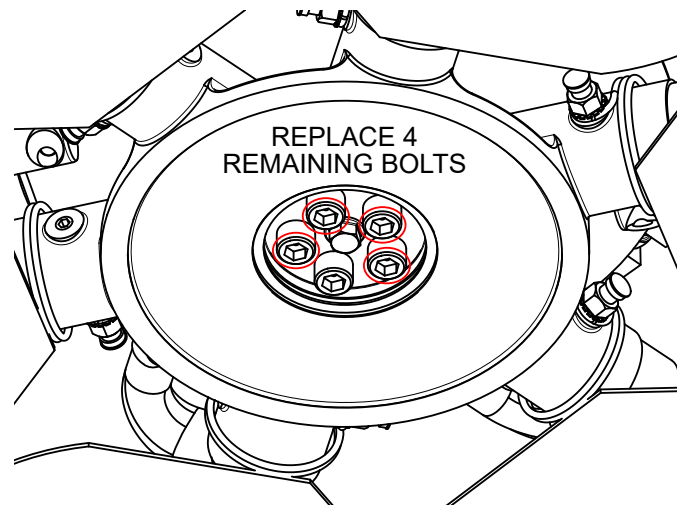

Figure 17. Replace 4 Remaining Spider Bolts
- Repeat steps 2–6 for each of the four remaining left-side spider assembly bolts (Figure 17).